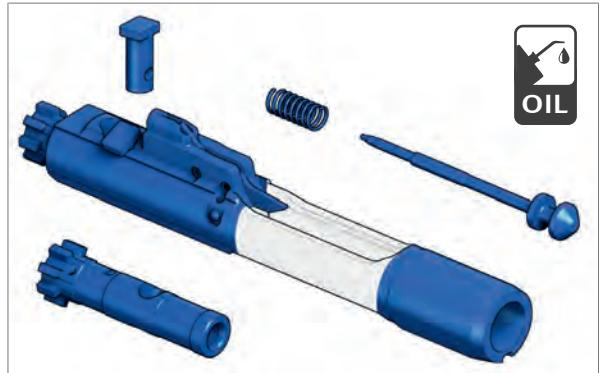

Fig. 113: Lubrication points of bolt group
2. Lubricate lubrication points of bolt group (Fig. 113).